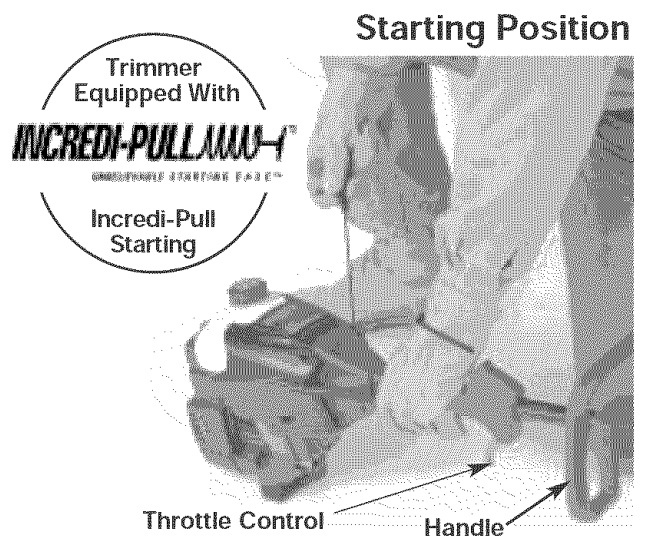

Fig. 8
WARNING: Avoid accidental starting. Make sure you are in the starting position when pulling the starter rope (Fig. 8). To avoid serious injury, the operator and unit must be in a stable position while starting.
5. Crouch in the starting position and **do not squeeze the throttle control** (Fig. 8). Pull the starter rope out with a **controlled and steady motion** up to 10 times, until the engine starts.